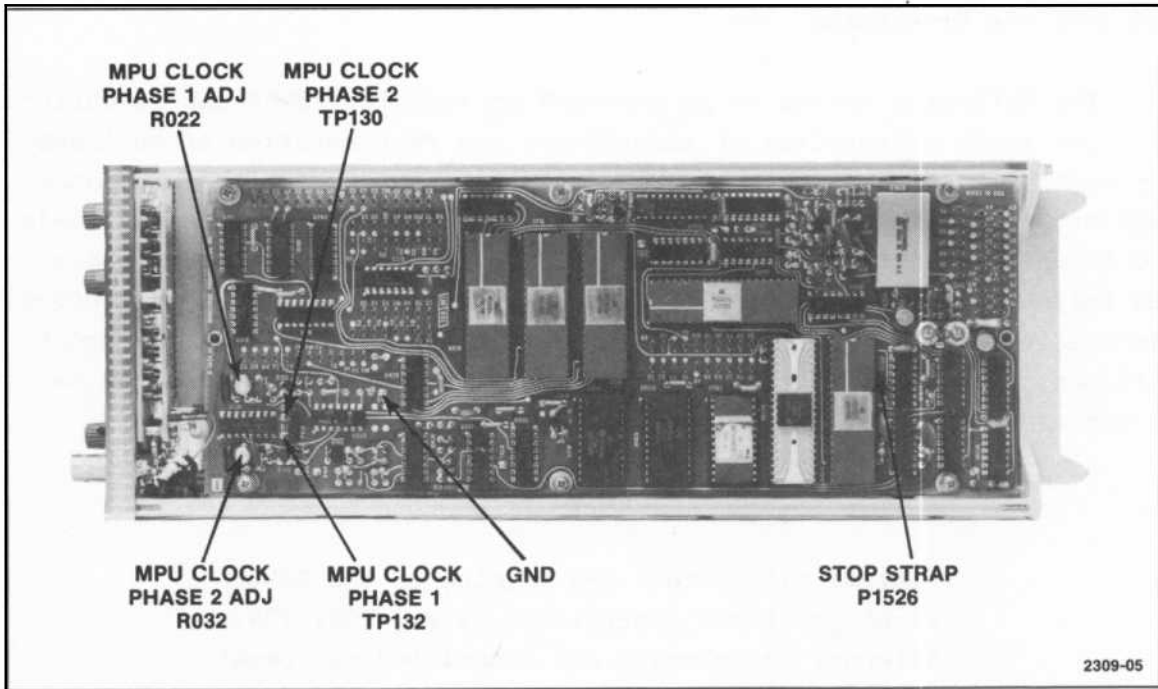

Fig. 6-1a. Test point and adjustment locations horizontal programming board.
The following procedure is arranged so that the 7B90P can be calibrated with the least interaction of adjustments and re-connection of equipment. The control settings and test equipment set-up throughout the procedure continue from preceding steps unless otherwise noted. Refer to Fig. 6-1a and b for the location of adjustments. The test set up is summarized at the beginning of each section of the calibration procedure. When performing the complete procedure, this summary provides a check of the instrument settings. Any part of the calibration procedure can be performed by setting up the equipment as shown in the tables.
1. Remove the STOP strap, P1526, on the Horizontal Programming Board (see Fig. 6-1a).
3. Connect the ground wire of the probe to the ground test point on the Horizontal Programming board (see Fig. 6-1a).